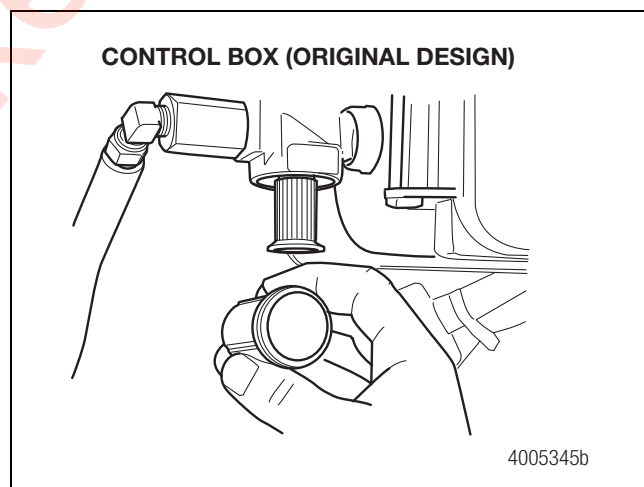
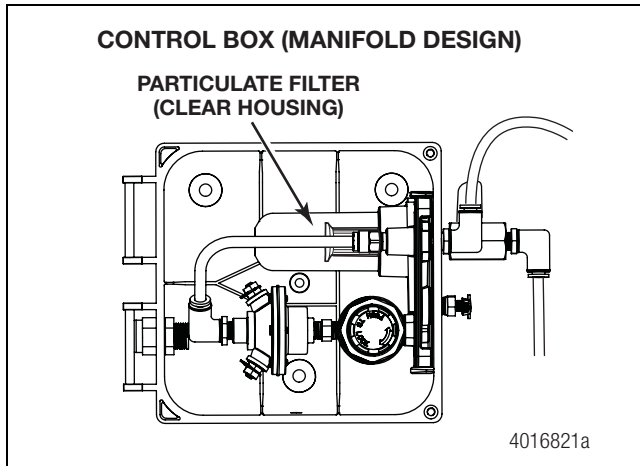

Figure 5.1
Figure 5.2
- Particulate filter. Figure 5.1 and Figure 5.2.